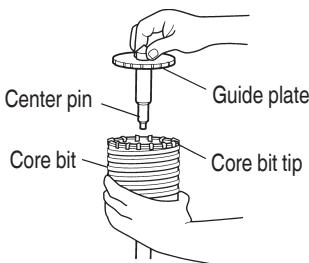

Fig. 19
- Engage the guide plate with the core bit, and turn the guide plate to left or right so that it does not fall even if it faces downward. (Fig. 19)